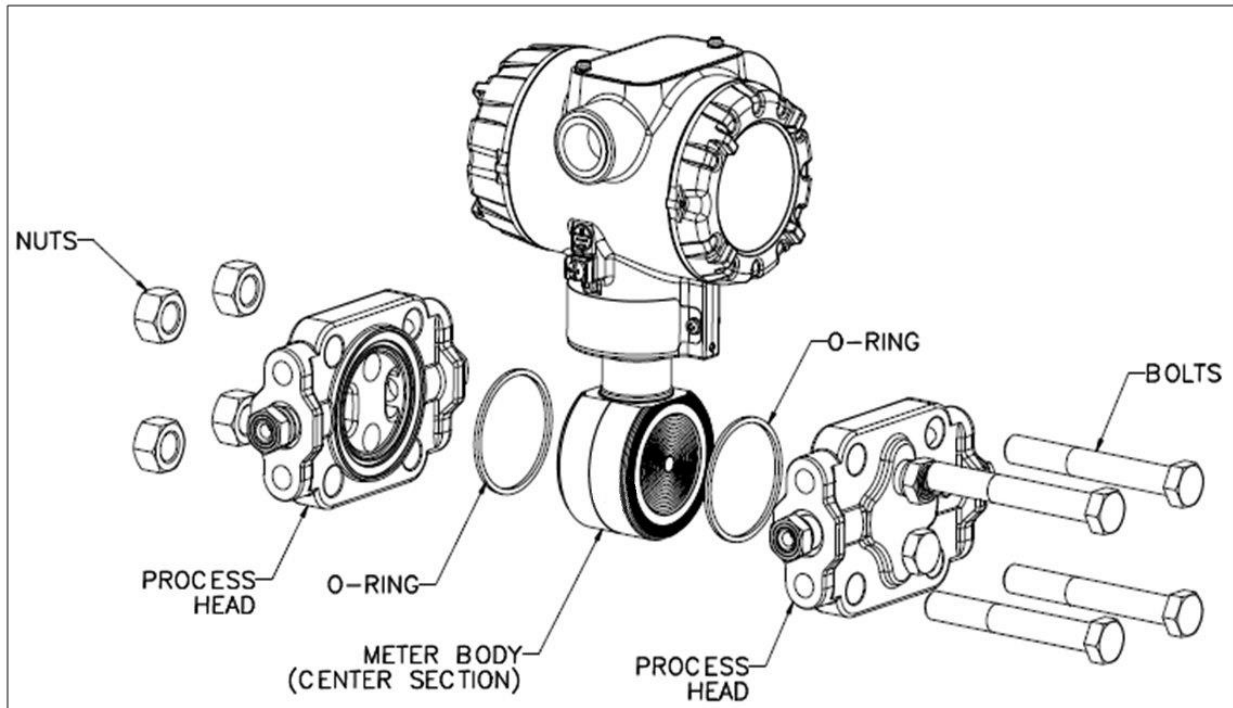

Figure 61 – ST 700 Basic Transmitter - DP Transmitter Head Disassembly
The following procedure comprises the general steps for inspecting and cleaning barrier diaphragms. You may have to modify these steps to meet your particular process or transmitter model requirements. Figure 61 shows an exploded view of a Differential Pressure (DP) Transmitter meter body for reference. For disassembly/reassembly purposes, Gauge Pressure (GP) and Absolute Pressure (AP) Transmitters are similar.